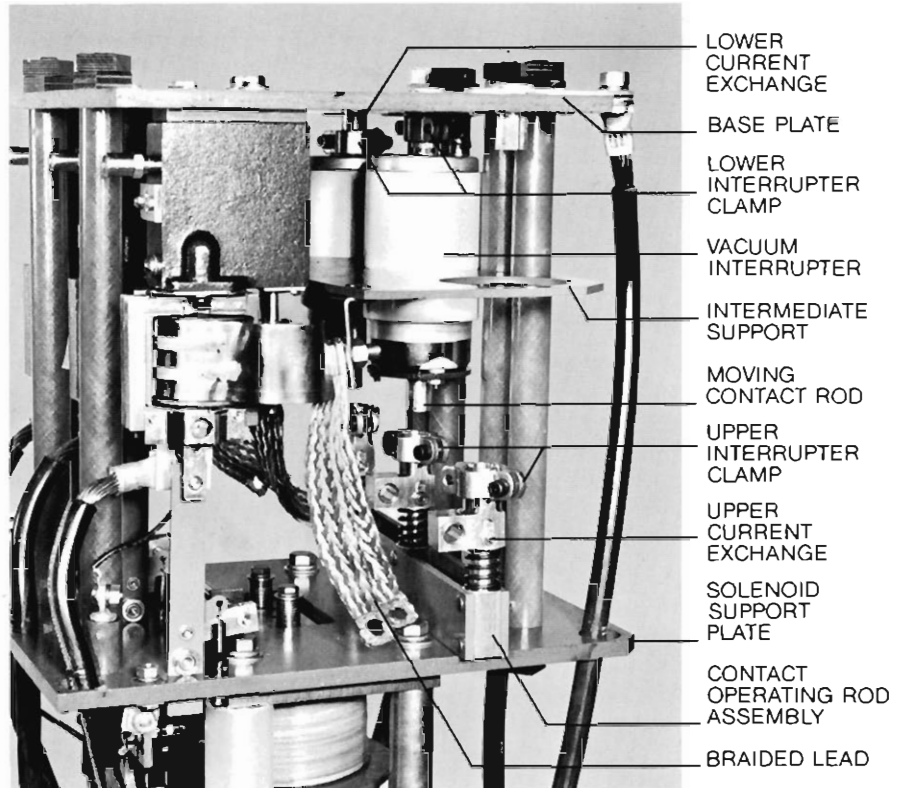

Figure 14.
To replace the interrupters, refer to Figure 14, and proceed as follows:
- C. The assembly will drop down off the interrupter moving contact rods and rest on the solenoid support plate as shown in Figure 14.